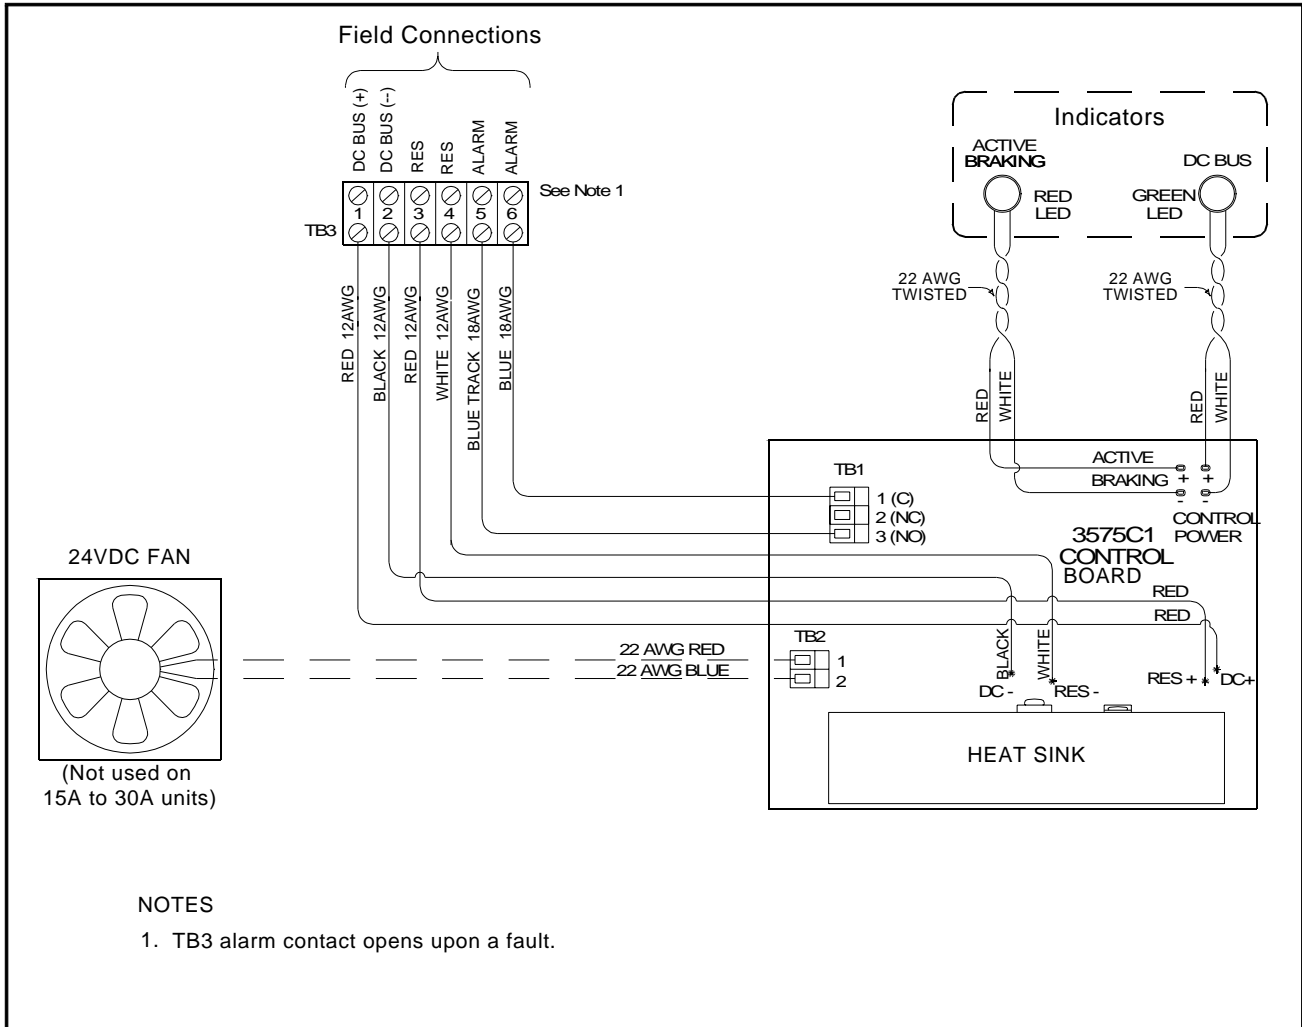

Figure 7 – Transistor Braking Unit Wiring Diagram
- Step 6. Install the wiring between the drive and the Braking Unit. See figures 7 and 8. Use wire that is rated at a minimum of 300 volts for 230 VAC Braking Units and 600 volts for 460 VAC Braking Units.